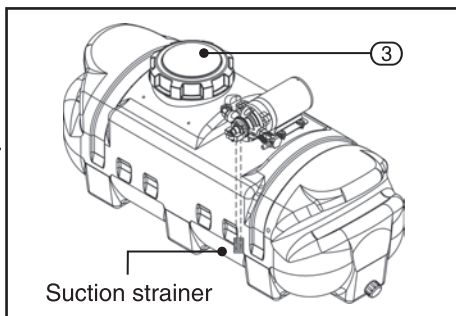

FIG. 13
10.1 CLEAN THE SUCTION STRAINER OF ANY CHEMICAL RESIDUE – FIG. 13